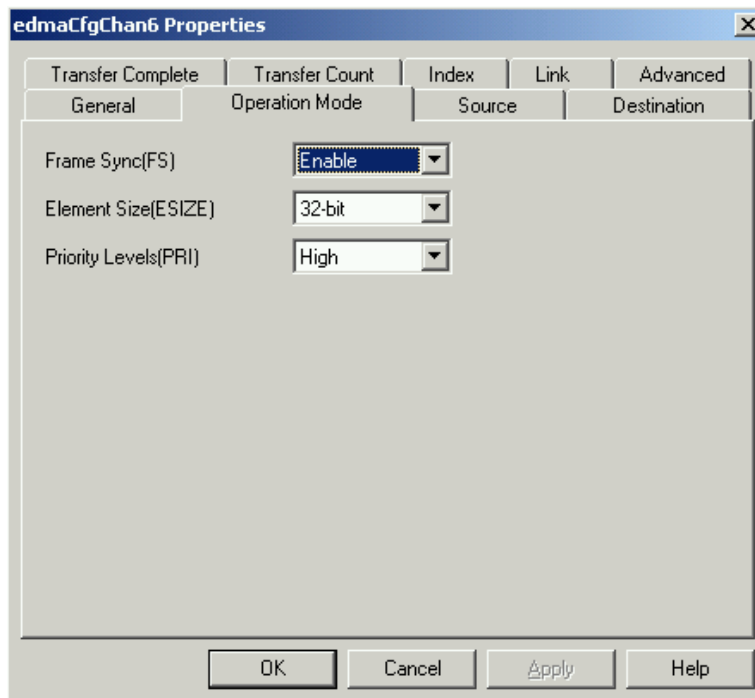

Figure 13. EDMA Chan6 Operation Mode Tab Options
11. In the Operation Mode tab, select options shown in Figure 13. Enable Frame sync, this triggers a read operation whenever an interrupt occurs signaling the end of a conversion. In this application, the BUSY pulse is inverted before being applied to the External interrupt 6 pin. This inversion is necessary before the EDMA recognizes only rising edges and falling edges. Remember that BUSY goes high when conversion begins, and returns low when conversion is complete.